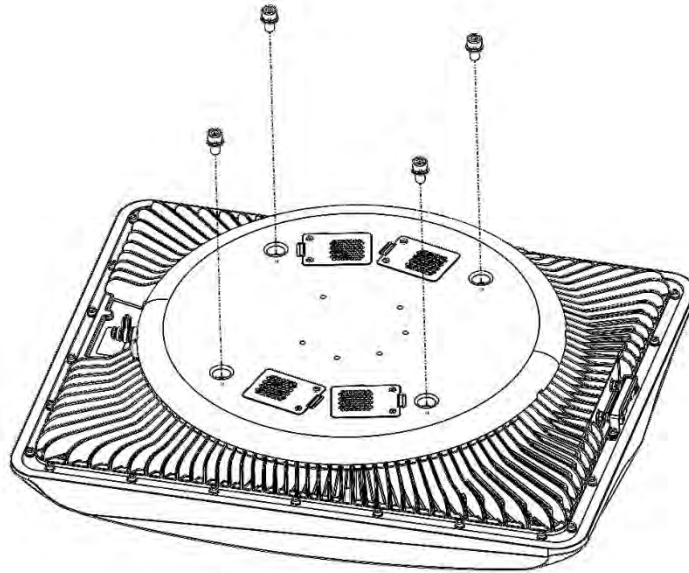

Figure 25: Mount Points
1. With the antenna upside down, take out the screws shown in Figure 25.